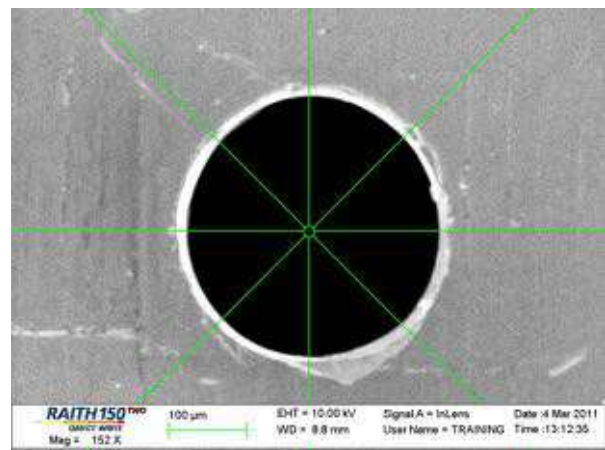

Figure 27 (a) Stage Control (Positions tab) window in the Adjustments menu, (b) Faraday cup orifice.
26. At this stage, all the corrections have completed. It is time to measure the beam current and proceed with the exposure. To measure the beam current, drive to the Faraday cup (a small device used to measure small current quantities) as shown in Fig. 27(a). The orifice of the Faraday cup is shown Fig. 27(b).
27. Ensure that the crosshairs of the SEM image are well centered on the Faraday cup. Zoom in (preferably all the way) until the opening of the Faraday cup cannot be seen (unlike Fig. 27(b) above). This is to ensure that all the electrons are collected by the Faraday cup and the system reads a proper current